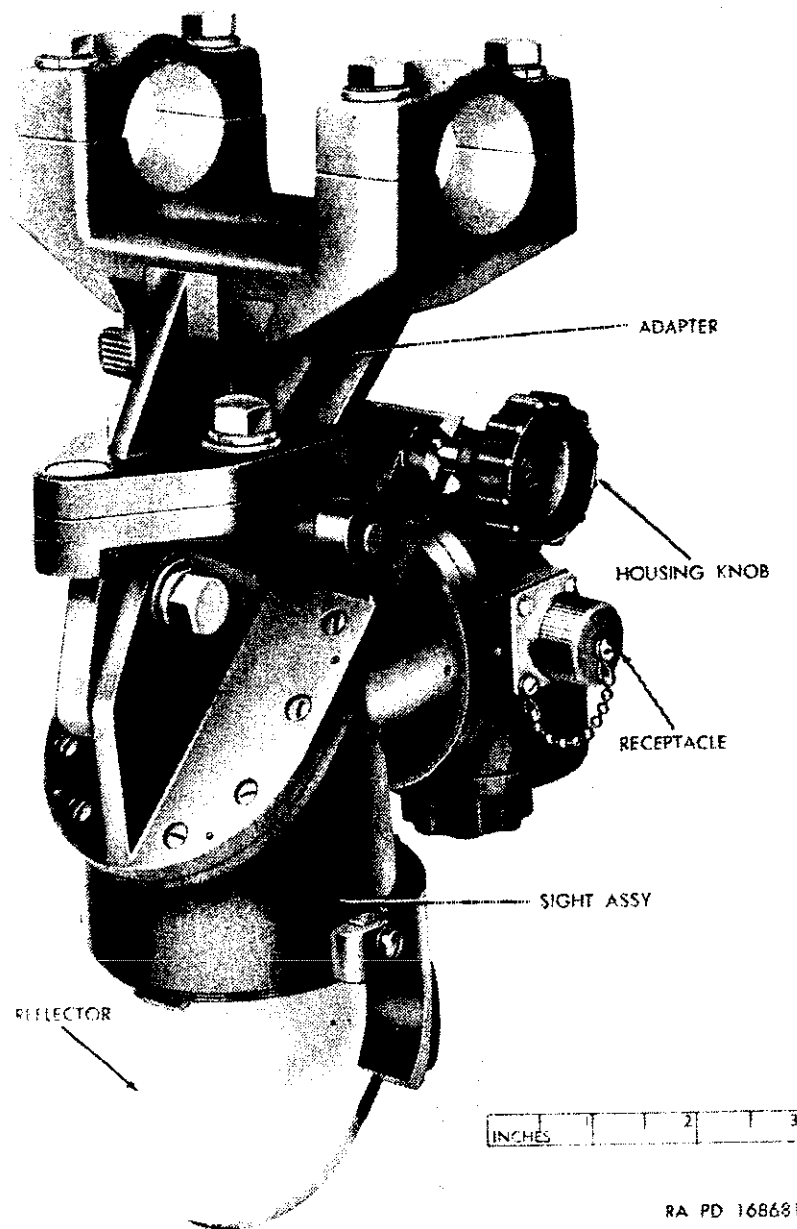

Figure 93 Reflector sight M18 with sight mount 7675757—right rear view.
*c.* The reflex sight M18 consists of a sight assembly and a housing assembly. The sight assembly contains the optical system of the reflex sight, while the housing assembly (fig. 93) provides artificial illumination when desired for sighting. The housing assembly can be raised, allowing daylight to enter the optical system of the sight assembly through the sight assembly window. When artificial illumination of the reticle is desired, the housing assembly is lowered and the intensity of the illumination controlled by the rheostat knob.
*d.* With the housing assembly lowered, the artificial light from the housing assembly is diffused by both the housing assembly window and the sight assembly window. With the housing assembly raised (fig. 94), the daylight passes through only the sight assembly window. The diffused light falls upon a metal reticle, located behind the sight assembly window, and passes through the etched pattern, and is deviated through  $90^\circ$  by a mirror after which it is focused at infinity by the objective assembly. The image of the reticle from the objective strikes the reflector (fig. 93) which is held at an angle of  $45^\circ$ . Since the reflected light rays are parallel, the reticle pattern (fig. 95) appears at infinity, which makes it possible for the observer to superimpose the image on the target and focus on both at once.